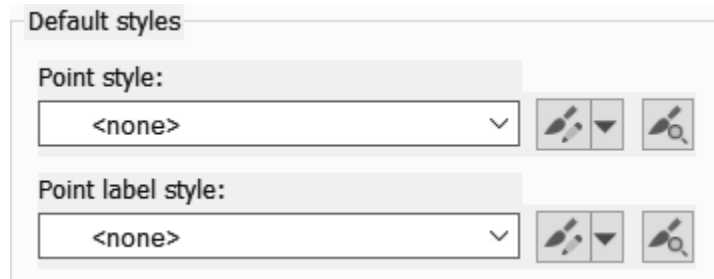

Figure 2–53
4. Select **<none>** for both the *Point style* and the *Point label style*, as shown in Figure 2–53.